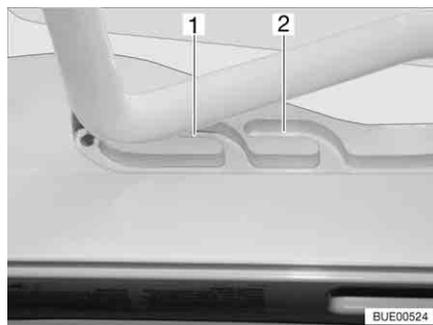
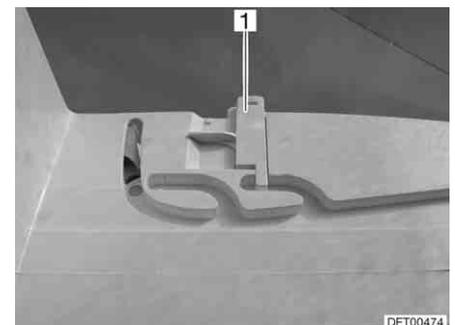

Fig. 69 Heki skylight in ventilation position
Fig. 70 Ventilation position locking mechanism
The Heki skylight can be put in two ventilation positions: Bad weather position (Fig. 69,1) and central position (Fig. 69,2). Depending on the model, the skylight can be locked in the central position with both left and right latches (Fig. 70,1) on the skylight frame.
- Push the bar slightly upwards and into the selected guide (Fig. 69,1 or 2) and lock if necessary.